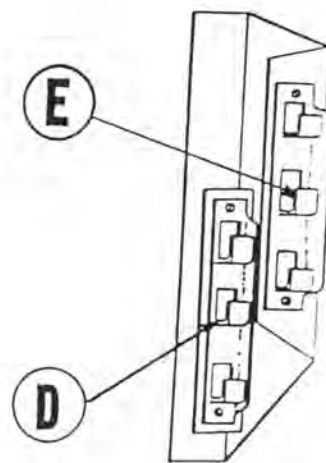

FIGURE 6.
- C. Install catch-all (A) on lower hangers marked (D) (Fig. 6) and catch-all (B) on upper hangers marked (E) (Fig. 6) keeping them as close to each screen as possible.